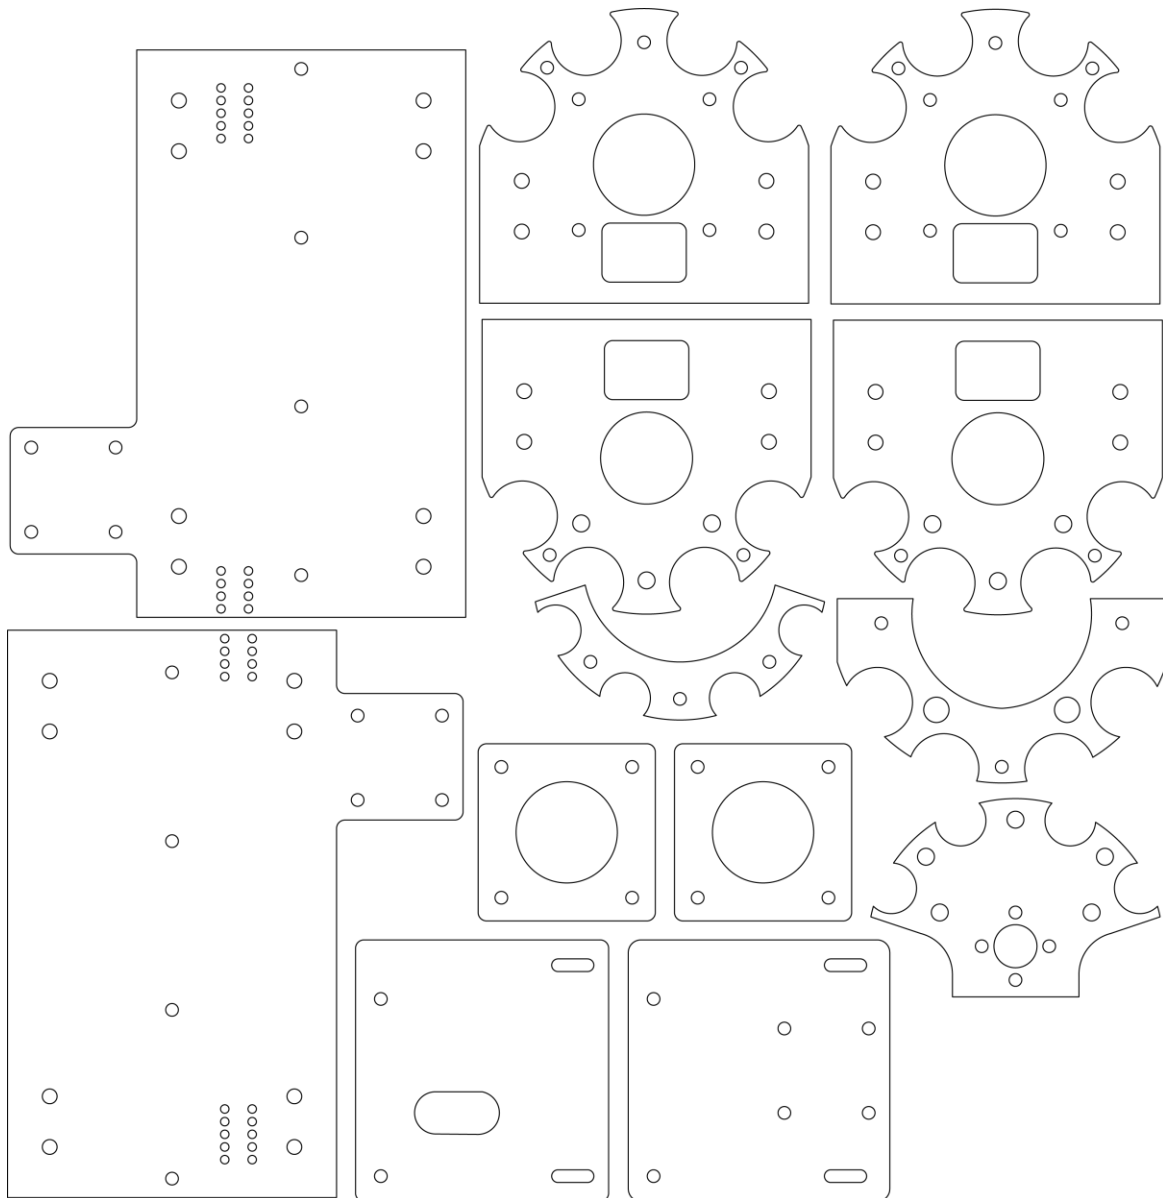

Figure 1: Parts to laser cut.
- 2- Laser cut the parts in the file [Manufacturing in 5 mm thickness Acrylic.ai](https://github.com/FrancisCrickInstitute/Four_channel_syringe_pump/tree/main/Manufacturing%20files/Mechanics/Adobe%20Illustrator) which can be found on: https://github.com/FrancisCrickInstitute/Four_channel_syringe_pump/tree/main/Manufacturing%20files/Mechanics/Adobe%20Illustrator (Figure 1).